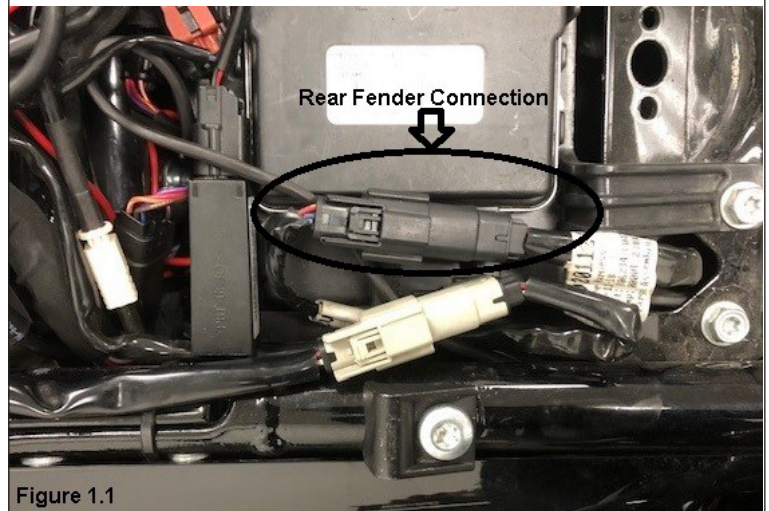

Figure 1.1
3. Locate the Rear Fender Harness connector located under the seat to the left side of the motorcycle, see Figure 1.1.
5. Install the included Plug-N-Play harness between the rear fender harness connection. (Figure 1.1) Be sure that the connectors are fully seated and locked.